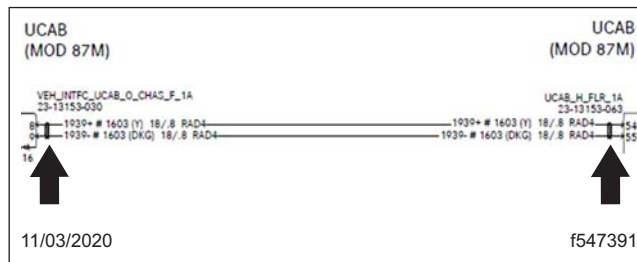

Fig. 14, If Not Present, Add Harness A66-07820-000.
- If not present, add harness A66-07820-000 in VEH_INTFC_UCAB_O_CHAS_F_1A UCAB_H_FLR_1A between pins 8/9 and 54/55. See Fig. 14 from schematic G66-07101-004 and G66-09942-000.